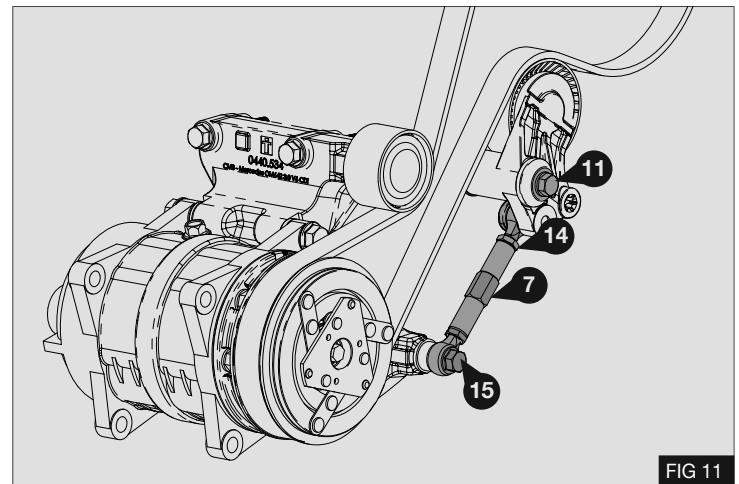

FIG 11
2. Tension the drive belt (see table opposite) by rotating the adjuster bar (7) - Fig 11
Torque bolt (11) to 32 +/- 3 Nm or 23 +/- 2 lb ft using a calibrated torque wrench - Fig 11